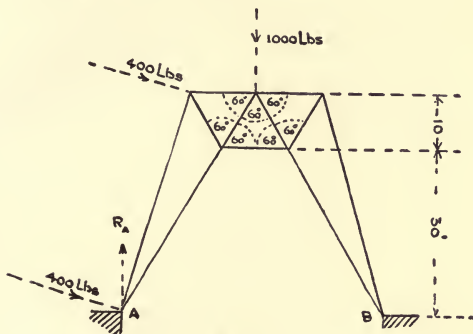

FIG 1.
1. The framework shewn in Fig. 1 is fixed at  $B$  and carried on rollers at  $A$ , so that  $R_A$ , the reaction at  $A$ , is vertical. The framework supports a vertical load of 1000 lbs., and two forces of 400 lbs., due to wind pressure, also act upon the frame. Determine the reaction at  $B$ , and construct to scale the reciprocal figure for the framework.